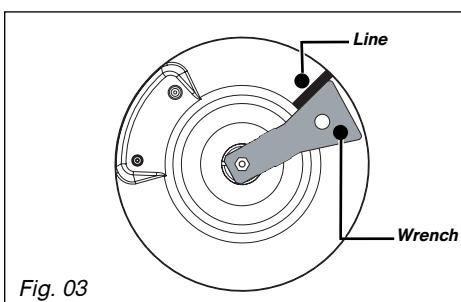

Fig. 03
may be used. In this case an adaptor must be used and a sealing washer must be inserted between the adaptor and the elbow joint (Fig. 03).
— Turn the wrench clockwise until the line appears on the opposite side (Fig. 03).
- Turn the wrench clockwise until the line appears on the opposite side (Fig. 03).